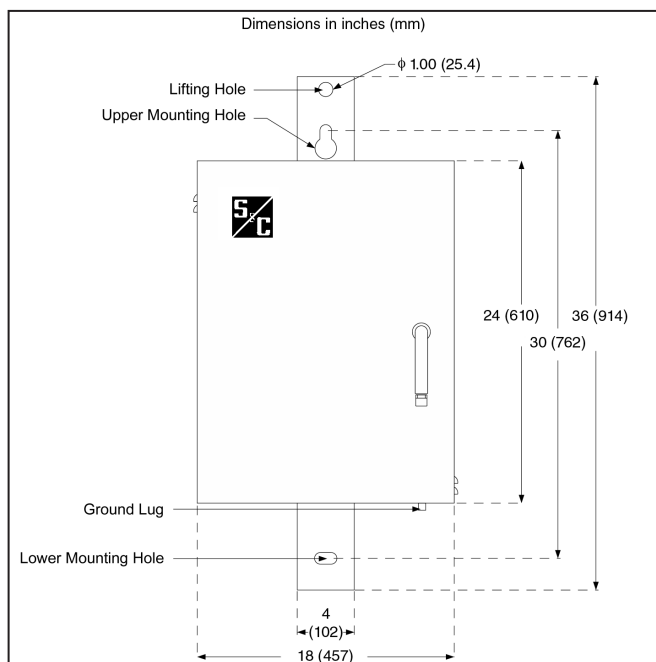
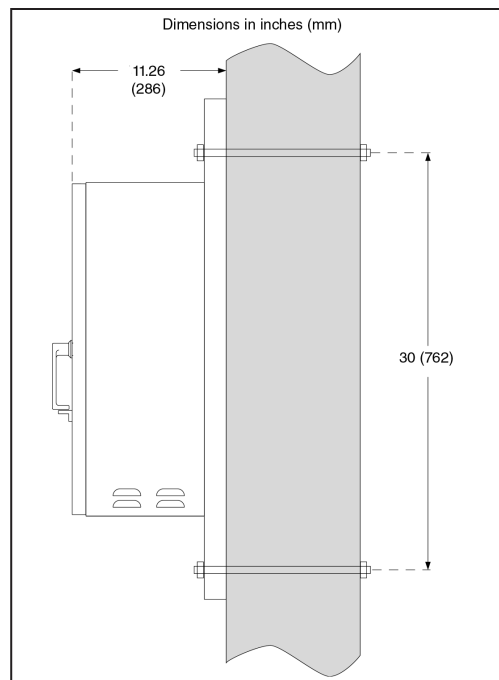

Figure 16. Front view of the switch control enclosure.
Figure 17. Side view of the switch control enclosure on the pole.
STEP 4. Mount the switch control enclosure. Pole-mounted controls, attach the switch control (see Figure 16 and Figure 17 on page 24) to the pole with two 5/8-inch through bolts and flat washers as follows:
Use the ground lug located on the bottom of the enclosure to ground the switch control. See Figure 16 on page 23. The ground lug will accommodate up to #2 wire, copper or aluminum, solid or stranded.